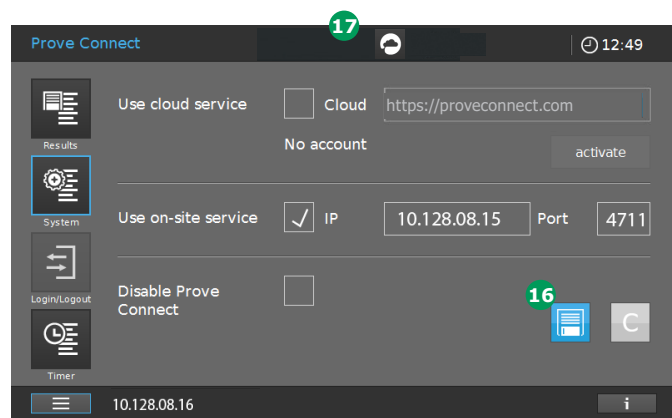

Figure 42 - Screen of Spectroquant® Prove / Prove plus with all network details
13. After setting all parameters (Checkmark, IP and Port) press the save icon 16 (Figure 42).
When the connection is established the cloud icon 17 appears in the instrument display (Figure 42).